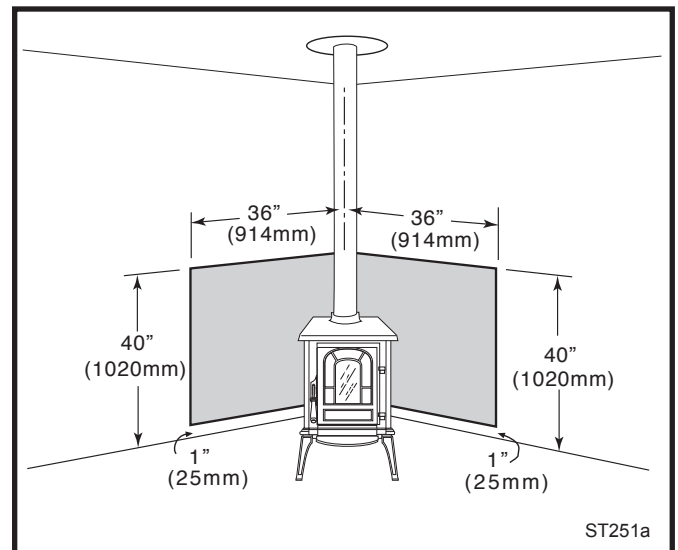

Fig. 19 Corner installation, vertical chimney connector, two wall shields.
**Corner installation, vertical chimney connector, two wall shields.** Fig. 19: Reduced side clearances. Wall shields MUST meet at corner.